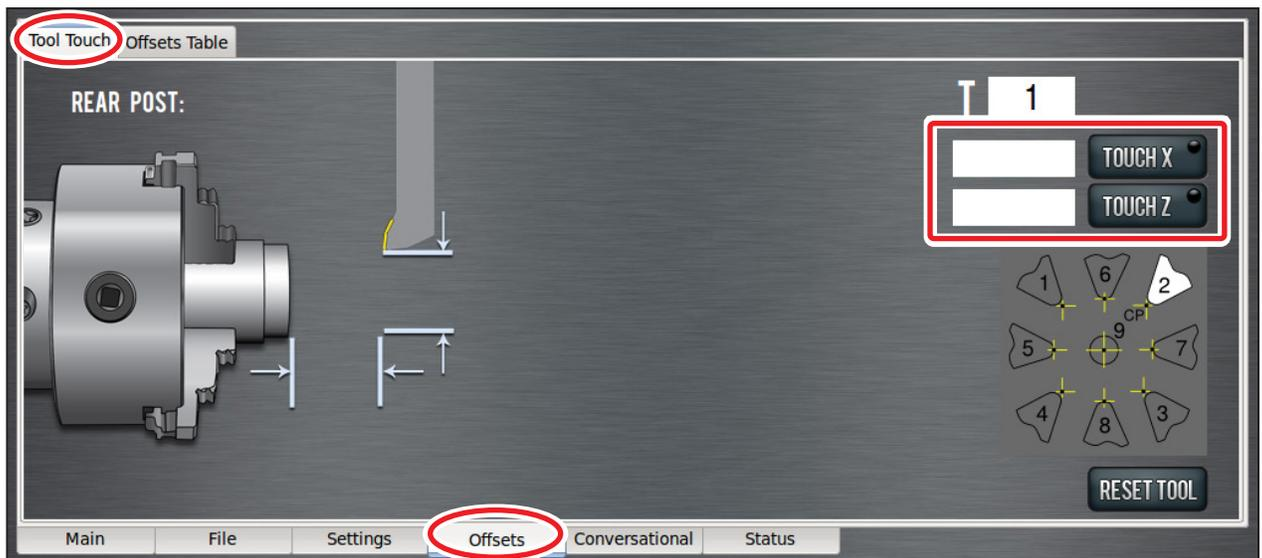

Figure 4.17
11. Measure diameter of skim cut on workpiece with a micrometer (see **Figure 4.16**); enter value in *Touch X* DRO on the *Offsets* screen's *Tool Touch* tab and click *Touch X* (see **Figure 4.17**). An illuminated LED button indicates that a tool offset has been set for that tool.
16. Enter 0 in *Touch Z* DRO; click *Touch Z* (see **Figure 4.17**). Use faced end of workpiece as Z-zero reference surface for all subsequent tools.